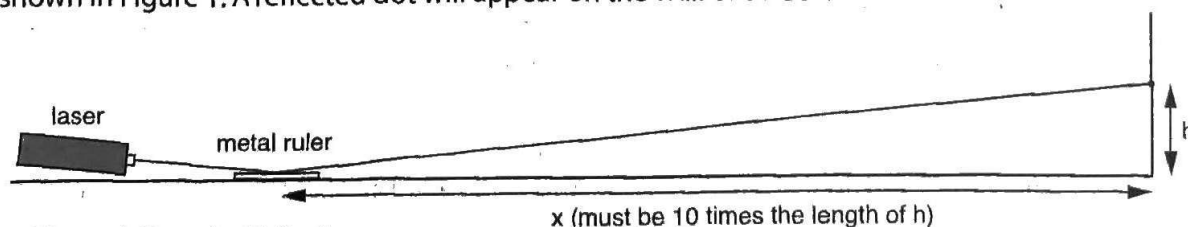

Figure 1. Specular Reflection
Likewise for a laser beam reflecting at a grazing angle from the surface of a tilted meterstick. When the stick is tilted as shown in Figure 1 (Step 1), the millimeter marks appear to be  $1/10$  of a millimeter to the light beam. One millimeter is seen as  $0.10$  mm. Likewise for the raised millimeter marks of a metal or plastic ruler. With this grating spacing and the viewing screen far away, we can use the raised ridges of the ruler as a diffraction grating and measure the wavelength of light!
**Step 1:** Arrange a simple reflection. Shine a laser at a smooth (unmarked) section of the metal ruler, as shown in Figure 1. A reflected dot will appear on the wall or screen.
- Examine Figure 1. Since  $x$  is 10 times the length of  $h$ , can you see that the grating-to-screen distance  $L$  is **essentially** the same as the distance  $x$ ? Record the value below. If you are concerned that this is an unwarranted simplification, determine the value of  $L$  from the values for  $x$  and  $h$  using the Pythagorean Theorem.